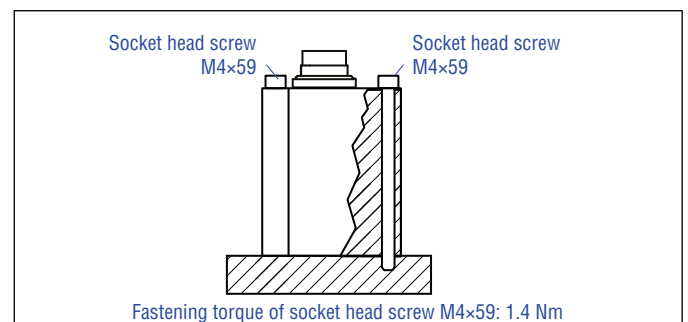

Fig. 30: Mounting with socket head screws M4x59
- Mount the sensor electronics housing by means of three non-magnetic socket head screws M4x59. Fastening torque: 1.4 Nm (Fig. 30). Secure the screws, e.g. using Loctite 243, before re-installing.